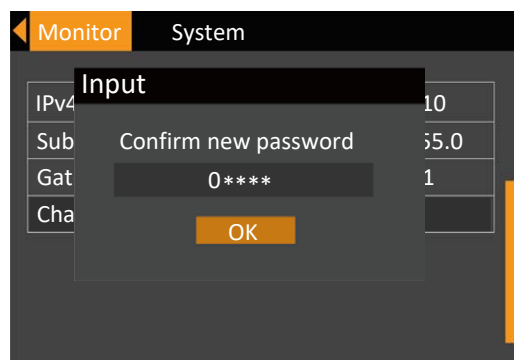

Figure 5-24 Confirming new password
5. After inputting the new password, press the key to confirm it, then the system requires to confirm the new password, see Figure 5-24.